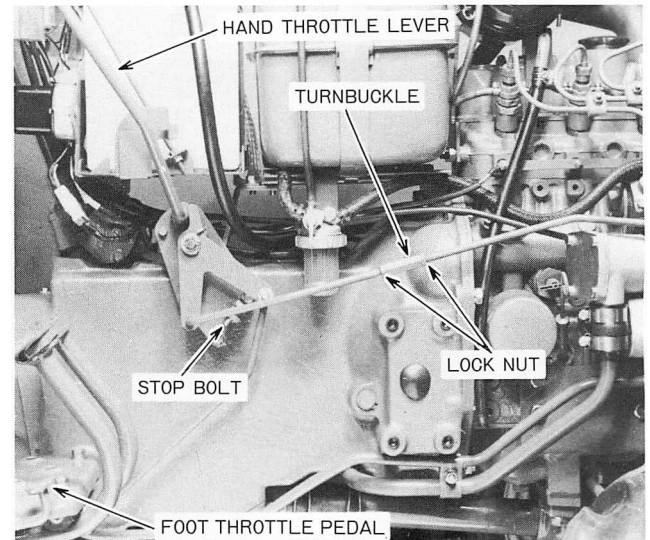

Figure 48 — Idle and Throttle Stop Adjustment
3. The maximum no-load speed of 2750-2800 rpm is adjusted by the stop bolt, Figure 48.